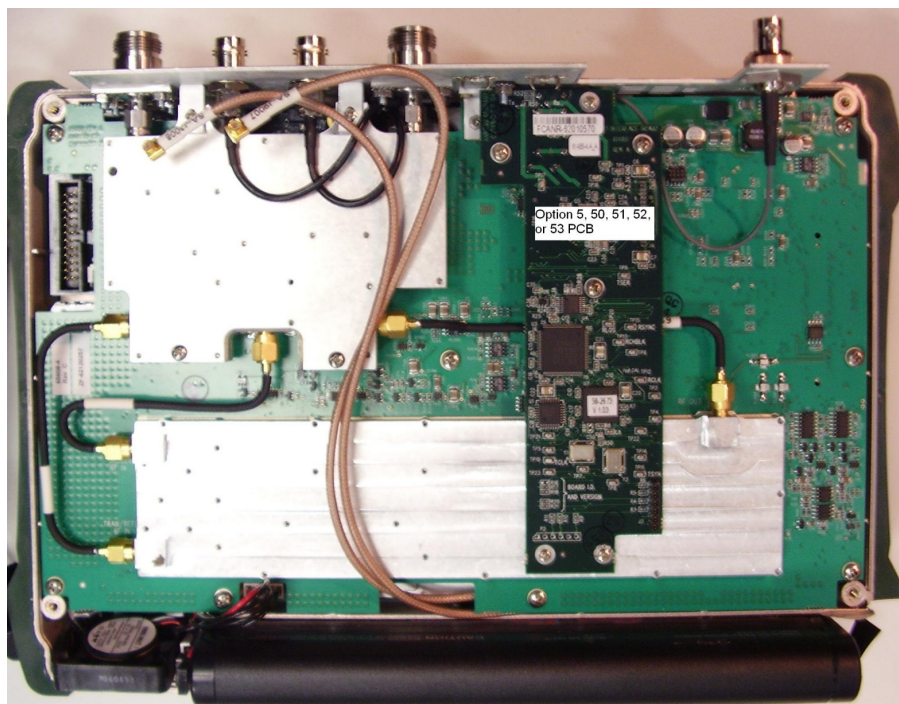

Figure 7-4. VNA Module
The VNA module, Main PCB, and LCD are mounted together (in that order) and mounted to the case top cover. To continue with disassembly, the VNA module (and Option 5 or 5x PCB, if present) must first be disconnected from the Main PCB (see Figure 7-4).
1. After removing the Option 5 PCB, use a 7 mm wrench to hold the standoffs under the seven mounting screws that attach the VNA board. Remove all nine screws that are holding the VNA module to the Main PCB (see Figure 7-4).